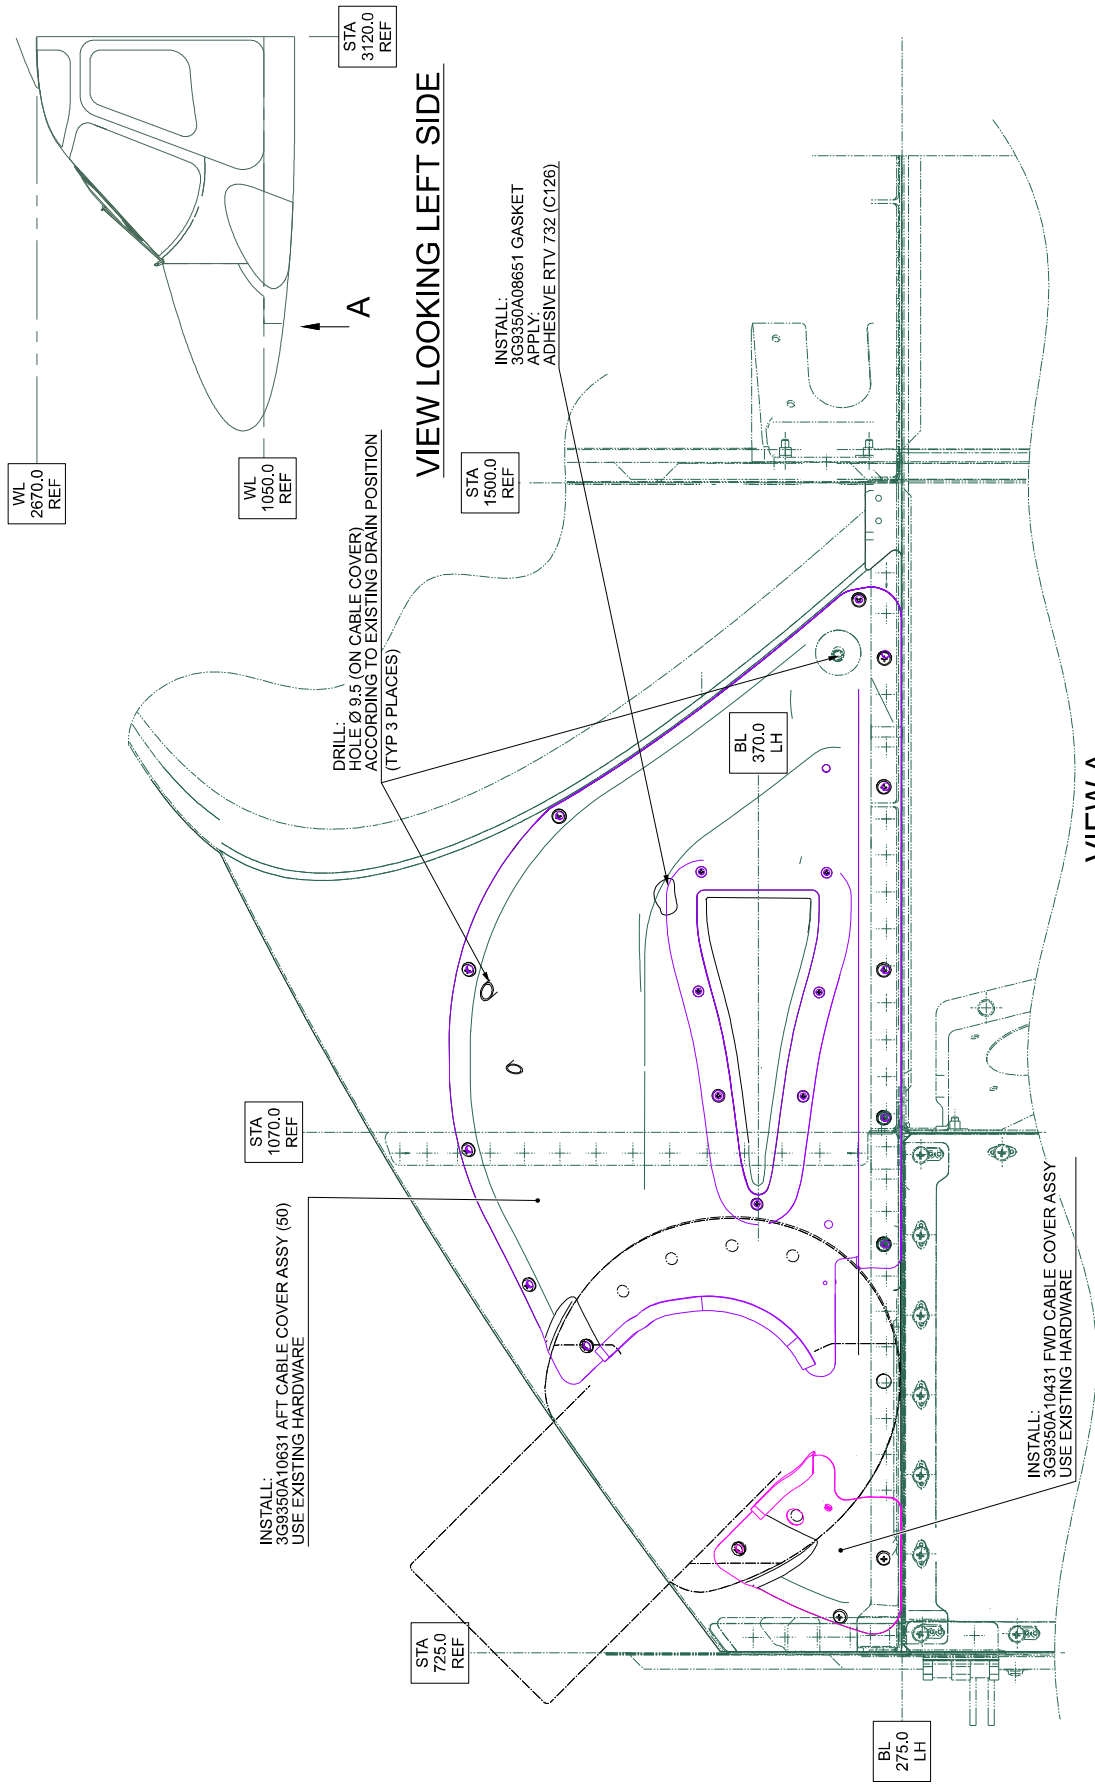

Figure 5
12. With reference to Figure 5, perform the FLIR 380HD structural variant for ASE P/N 3G5310P10112 as described in the following procedure:
- 12.1 With reference to Figure 5 View A, temporarily locate the aft cable cover assy P/N 3G9350A10631 on the left lower panel P/N 3P5331A54331 and countermark n°3 holes in accordance with the existing drain positions.
- 12.2 With reference to Figure 5 View A, drill n°3 holes Ø9.50 thru the aft cable cover assy P/N 3G9350A10631.
- 12.3 With reference to Figure 5 View A, install the gasket P/N 3G9350A08651 by means of the adhesive RTV 732 (C126).
- 12.4 With reference to Figure 5 View A, install the aft cable cover assy P/N 3G9350A10631 on the left lower panel P/N 3P5331A54331 and on the FWD LH optical sensor support P/N 3G5317A98453 by means of existing hardware previously removed at step 5.
- 12.5 With reference to Figure 5 View A, install the FWD cable cover assy P/N 3G9350A10431 on the left lower panel P/N 3P5331A54331 and on the FWD LH optical sensor support P/N 3G5317A98453 by means of existing hardware previously removed at step 5.